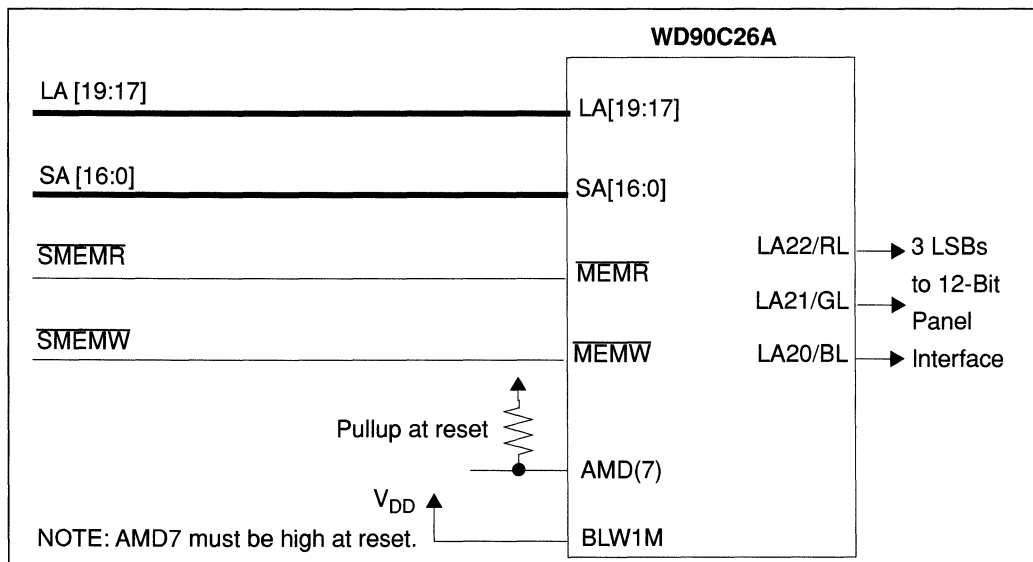

FIGURE 6-29 USING SMEMR AND SMEMW WHEN CONNECTING A 12-BIT RGB PANEL INTERFACE
- Using **SMEMR** and **SMEMW** when Connecting a 12-Bit RGB Panel Interface (Figure 6-29)